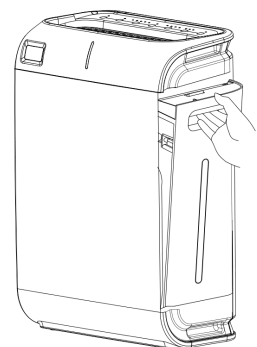

Fig 13
11. Put back the water tank into the appliance. Bottom edge of the water tank should be along with the edge of water channel, then push the upside of the water tank to fix it properly. (Fig13)